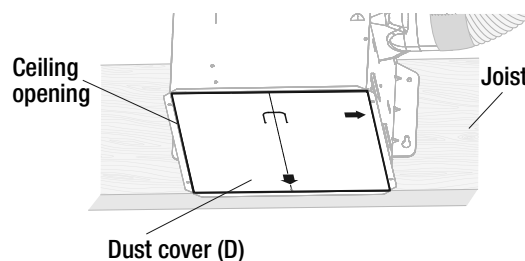

Fig. 19
- Once you are satisfied with your installation, protect the bath fan motor from construction dust and debris with the supplied dust cover (D) until construction is completed. See figure 19. Do not install the dust cover in finished construction. Do not operate the fan with the dust cover in place as it will damage the motor.